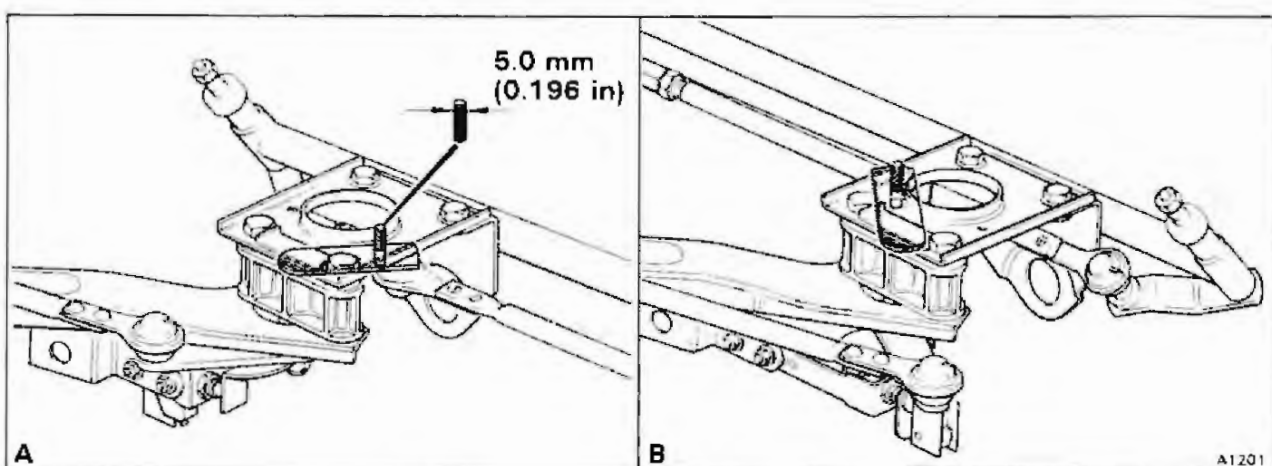

Fig.4 Windscreen wiper mechanism and transfer box closing plate
15. Fit the drive link rod to the transfer lever and secure the drive link nut. Remove the 5mm dia. (0.196 in dia.) rod from the transfer box closing plate (see fig.4).